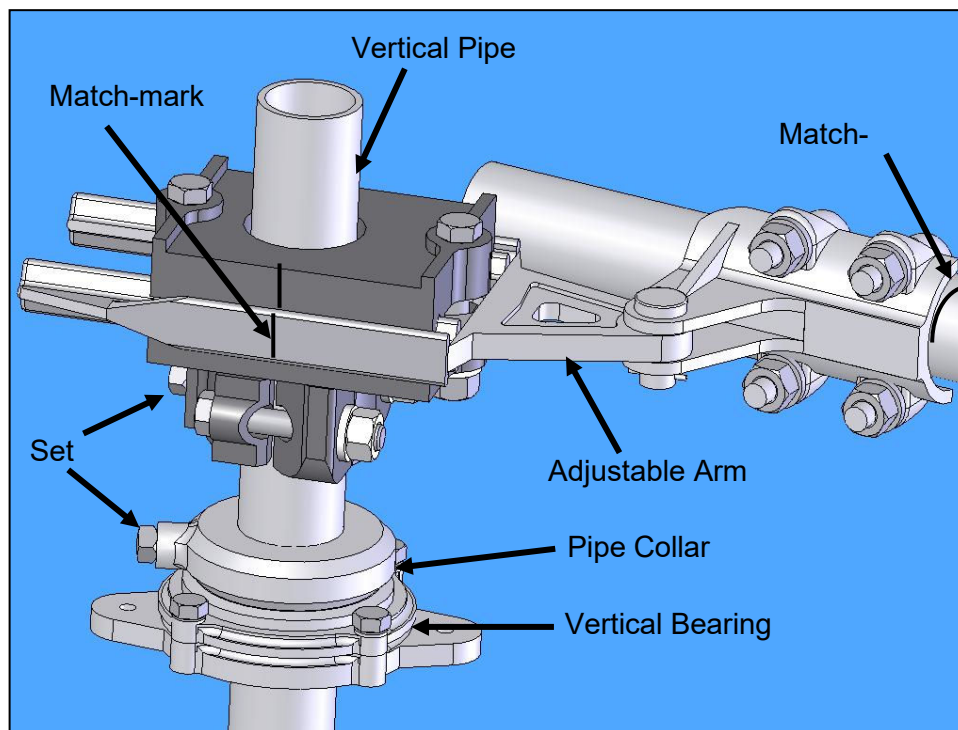
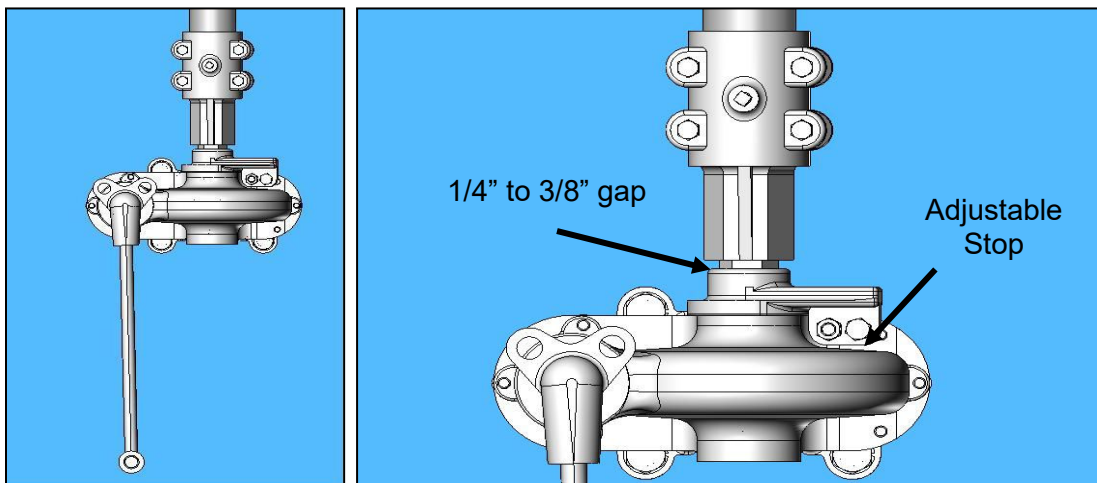

Figure 18: Typical Operating Arrangement
Figure 19: Type HOGO (High Output Geared Operator) Front View
3. Refer to the Operating Mechanism drawing, and install all mounting brackets, bearings, bushings, pipe clevises, switch operating device, adjustable arm, reach rod, and other necessary components. Refer to **Figure 18**.
⚠ CAUTION The pipe collar (above the vertical bearing) must support the entire weight of the vertical operating pipe. To prevent unnecessary component damage, **Do not allow the pipe to rest on the switch operating device**. Refer to **Figure 18**.
5. After mounting all op-mech components, match-mark all clevis connections, the adjustable arm, and the switch operating devices' coupling, so that any slippage occurring during trial operations can be readily detected. Refer to **Figure 18**.
- 2.1.2. The weight of the vertical operating pipe should be supported by pipe collar (**Figure 18**) by maintaining the 1/4 - 3/8" gap (**Figure 19**).
- 2.1.3. When the switch is properly adjusted the operator handle should hang freely in both the open and closed positions to permit the use of a customer supplied padlock. Refer to **Figure 19**.
4.3. If the switch **does not** fully open before the operator reaches the fully open position, the adjustable arm radius is too short. Close the switch, match-mark the adjustable arm and the pipe clevis, and loosen the bolts on the adjustable arm and pipe clevis. **Lengthen the adjustable radius arm approximately 1/4". Allow the pipe clevis to reposition itself the same 1/4".** Refer to **Figure 19**. Test operation and readjust as necessary.
4.4. If the switch is fully open before the operator reaches the fully open position, the adjustable arm radius is too long. Close the switch, match-mark the adjustable arm and the pipe clevis, and loosen the bolts on the adjustable arm and pipe clevis. **Shorten the adjustable radius arm approximately 1/4". Allow the pipe clevis to reposition itself the same 1/4".** Refer to **Figure 19**. Test operation and readjust as necessary.